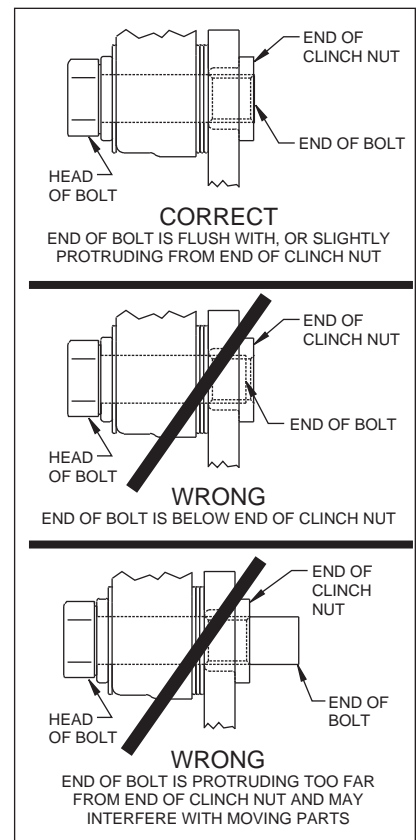

Figure 4. Clinch Nut Engagement Diagram
- Align the correct hole pattern in the hat (2) with the stud pattern on the axle flange. **NOTE:** Some OEM and after market axles come with stud sizes larger than 0.50" diameter. Verify stud size and have a qualified machine shop drill the hats to the correct size, if necessary. Slide the hat/rotor assembly (2 and 3) over the wheel studs and against the axle flange face.
- NOTE:** Please reference the caution statement at the beginning of the assembly instructions. WITH THE BLEED SCREWS POINTING UP, mount one of the two calipers (7) over the rotor (3) and onto the caliper mounting bracket (1) using washers (8) and mounting bolts (9). View the rotor through the top opening of the caliper. The rotor should be aligned in the center of the caliper. If not, adjust the caliper by using 0.032 inch shims (10) by placing them between the caliper mounting bracket (1) and the caliper (7). Add as many shim washers (10) as necessary to achieve the correct alignment. **NOTE:** The end of the bolt must be flush with or slightly protruding from the head of the clinch nut. See Figure 4. Place spare shims (10) between washer and caliper mounting ear to achieve the proper mounting fastener configuration. Always use the same amount of shims on both the top and bottom caliper mounting bolts (9). Apply red *Loctite*® 271 to the mounting bolt threads (9), torque to 30 ft-lb. Safety wire the caliper mounting bolts (9). Repeat this procedure again for the second caliper.
- Position the Wilwood disc brake pads (11) into the calipers (7) and secure in place with cotter pins (12). Steel backing plate side of brake pad should face the caliper pistons.